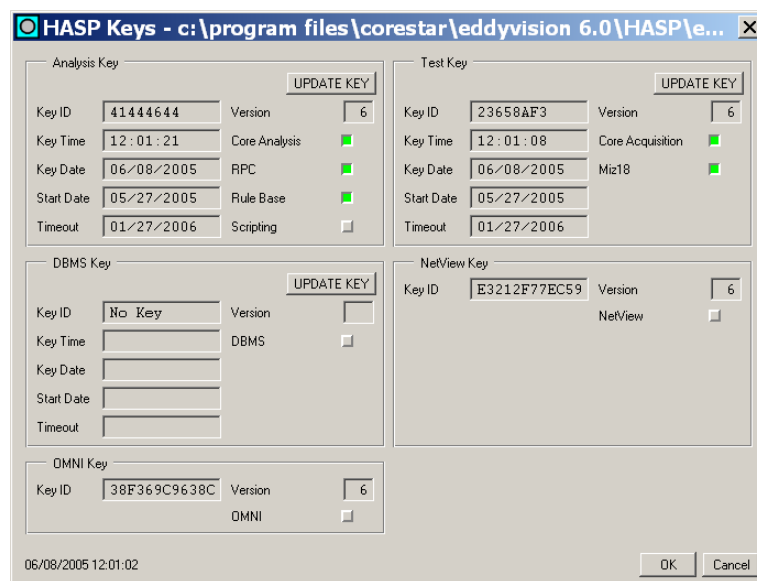

Figure 17. HASP Keys Dialog
- o **Util | Show Keys** displays the **HASP Keys** dialog shown in Figure 17, on which the user can check the status of a HASP key(s) currently connected to the computer or update a HASP key(s). In Figure 17, Analysis and Test keys are currently connected to USB ports of the computer, while no DBMS key is connected. The Timeout dates of all keys should be checked as part of inspection planning to ensure a key(s) will not timeout during the inspection. This menu selection is available in all the other software modules of EddyVision as well. For details on updating and/or troubleshooting HASP keys, please see the *Getting Started* manual.